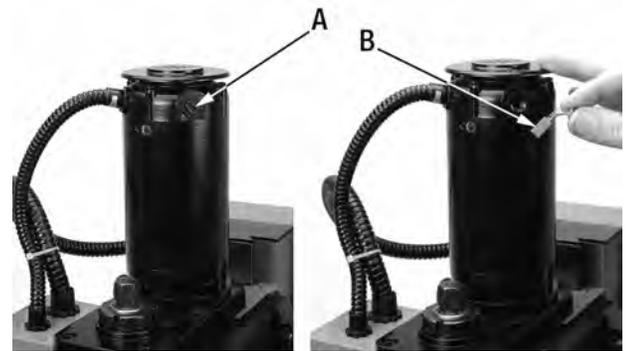

FIGURE 17
1. Unscrew carbon brush cap (A) Fig.17.
2. Remove the carbon brush assembly (B) and replace it with a new one.